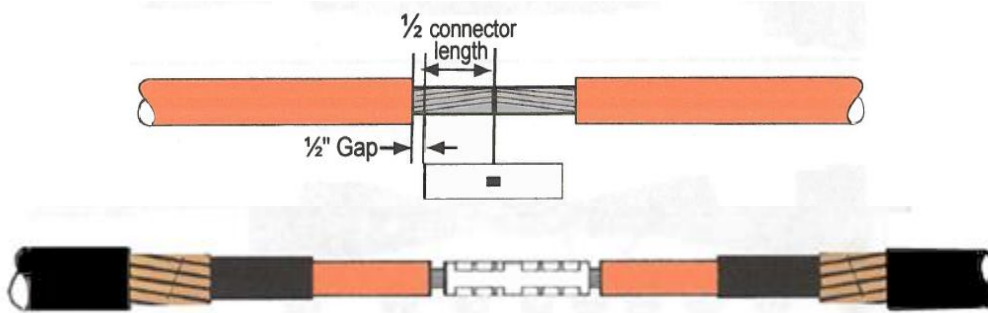

Figure 12
2. Connect the ends of each cable with the proper connector sized to the conductors. Compression connectors are to be used with heat shrink, pre-molded and hand taped splices. Shear bolt connectors are approved for use with cold shrink splices only. Refer to Figure 12.